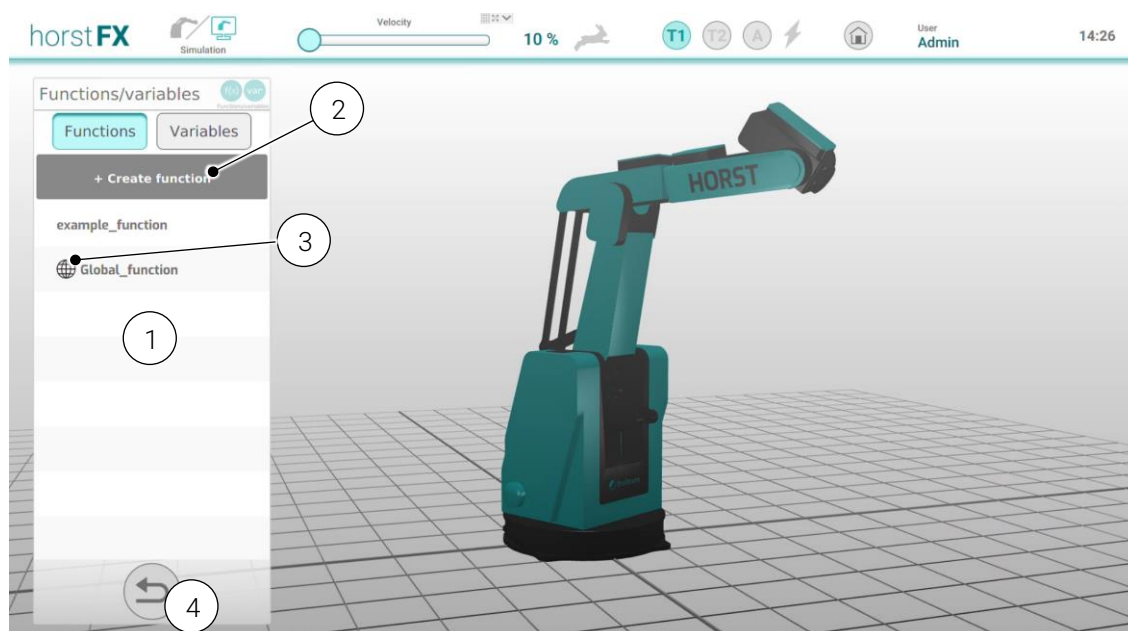

Fig. 6-70: Functions list
By tapping the **Functions/Variables** buttons (1) in the programming view, the program tree is replaced by a list of all existing functions (see Fig. 6-70).